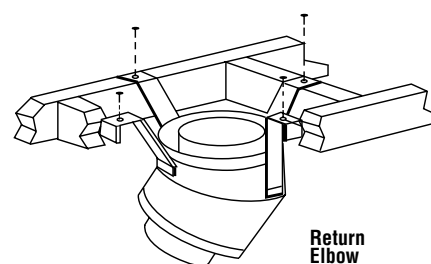

Figure 40
Step 5. Secure support straps to framing members by nailing under tension in sheer (Figure 40).